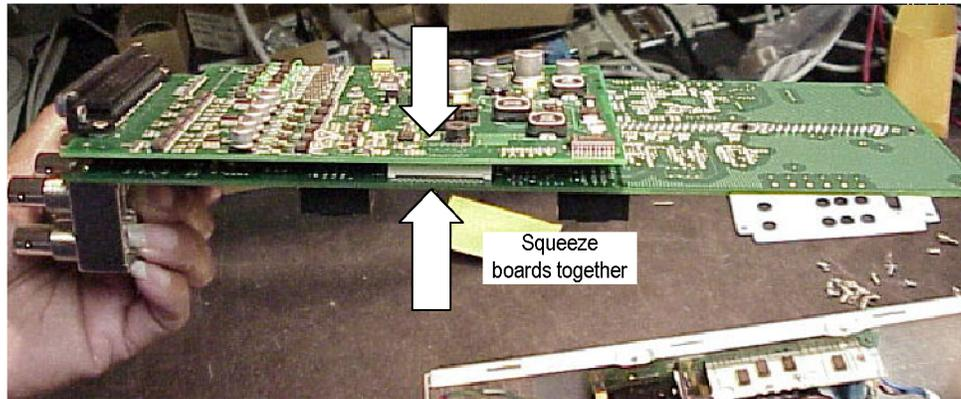

Figure 12: Checking the inter-board connection
3. On the new audio module, carefully squeeze the two circuit boards together near the inter-board connector and verify that the connector is fully seated. (See Figure 12.)